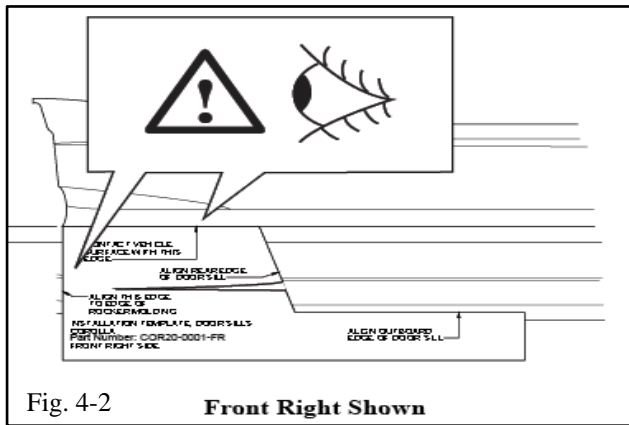

Fig. 4-2 Front Right Shown
- (1) Follow instructions on the fixture. Fixture placement is critical to proper installation (Fig. 4-2). Fixture has a break line within it. The upper portion of the fixture goes on the top portion of the “step” of the rocker while the lower portion goes on the lower “step”.